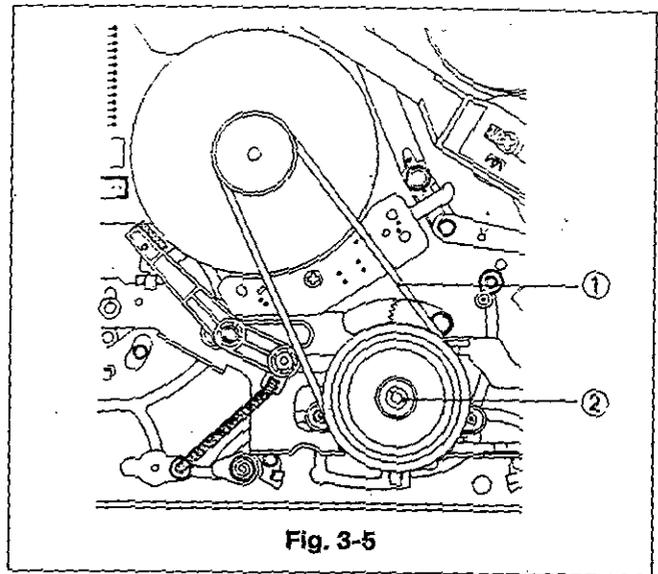

Fig. 3-5
- 3) Disassemble the Reel Belt (refer to Fig. 3-5).
- 4) Remove three screw ① and disassemble the Capstan Motor ②.